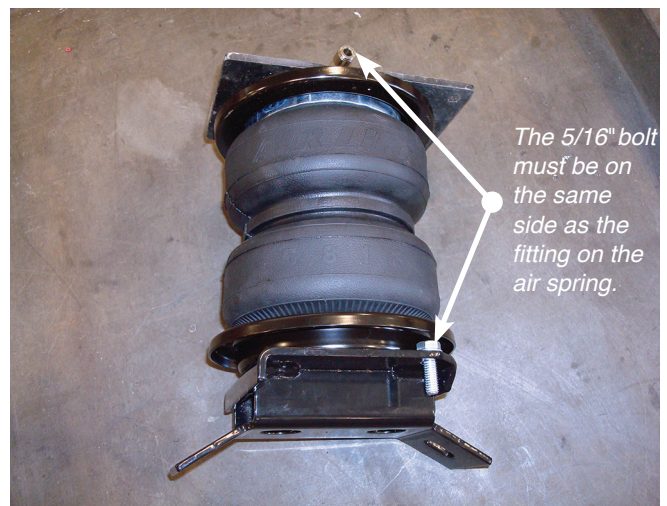

Fig. 10
- Attach this lower bracket (with the 5/16" bolt and washer) onto the left hand air spring assembly using a 3/8" bolt (G), lock washer (H) and flat washer (I) (Figs. 1 and 9) making sure that the 5/16" bolt is on the same side as the fitting (Fig. 10). Torque the mounting hardware to no more than 20 lb.-ft.